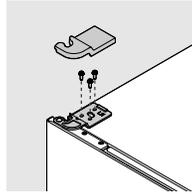

Figure 1
2. Remove the plastic top hinge cover (see Figure 1).